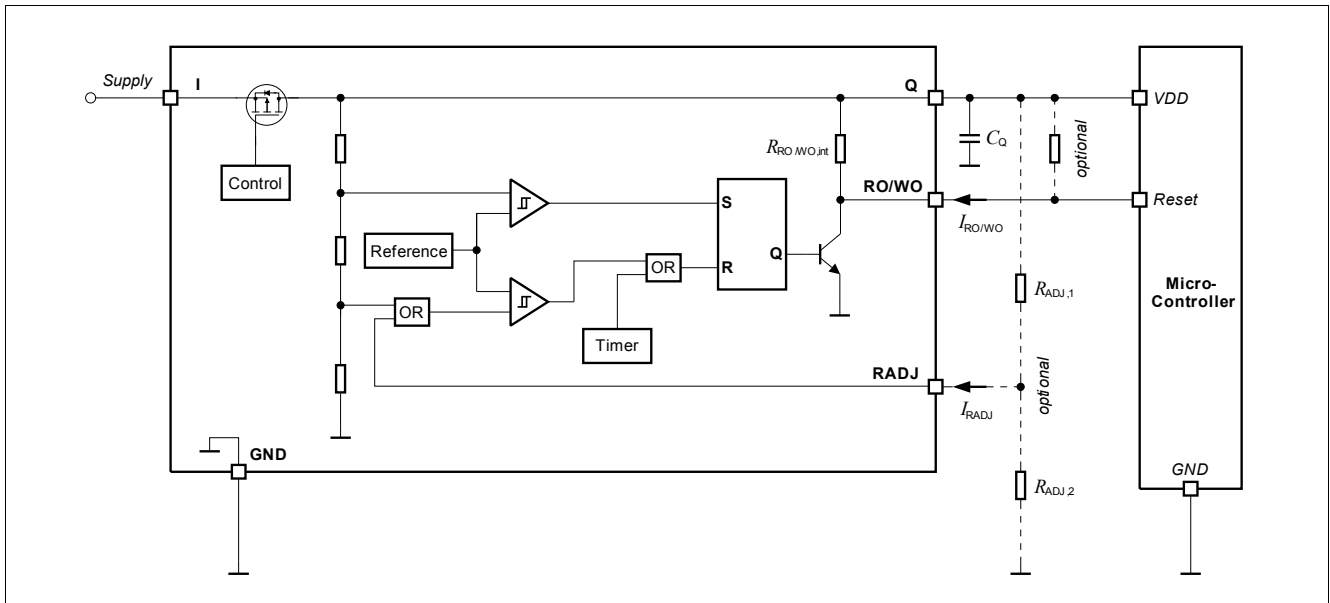

Figure 6 Block Diagram Reset Circuit
- $R_{ADJ,1}$, $R_{ADJ,2}$: Resistors of the external voltage divider, see Figure 6.